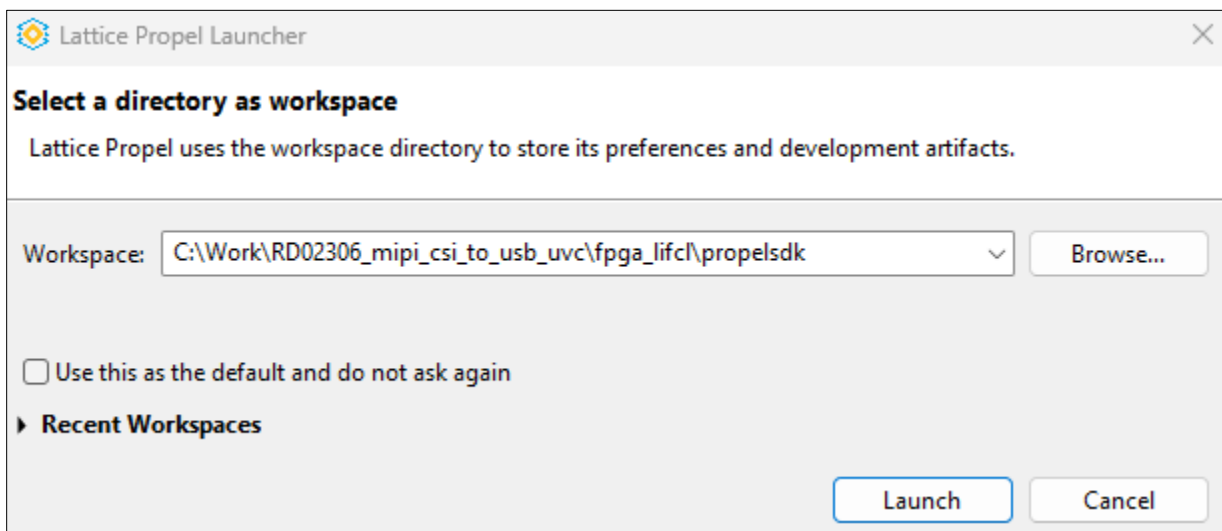

Figure 5.1. Launch Lattice Propel SDK
3. Then, click the **Launch** button, as shown in Figure 5.1.